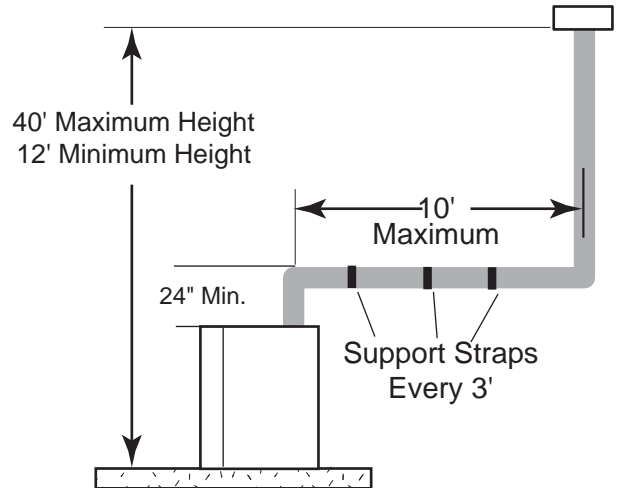

Figure 18 - Support Straps for Horizontal Runs
- Vertical installations up to 40' (12m) in height. Up to a 10' (3m) horizontal vent run can be installed within the vent system using a maximum of two 90° elbows. See Figure 18.
NOTE: If an offset is needed to avoid obstructions, you must support the vent pipe every three (3) feet. Use wall straps for this purpose. See Figure 18, page 19. Whenever possible, use 45° elbows instead of 90° elbows. The 45° elbow offers less restriction to the flow of the flue gases and intake air.